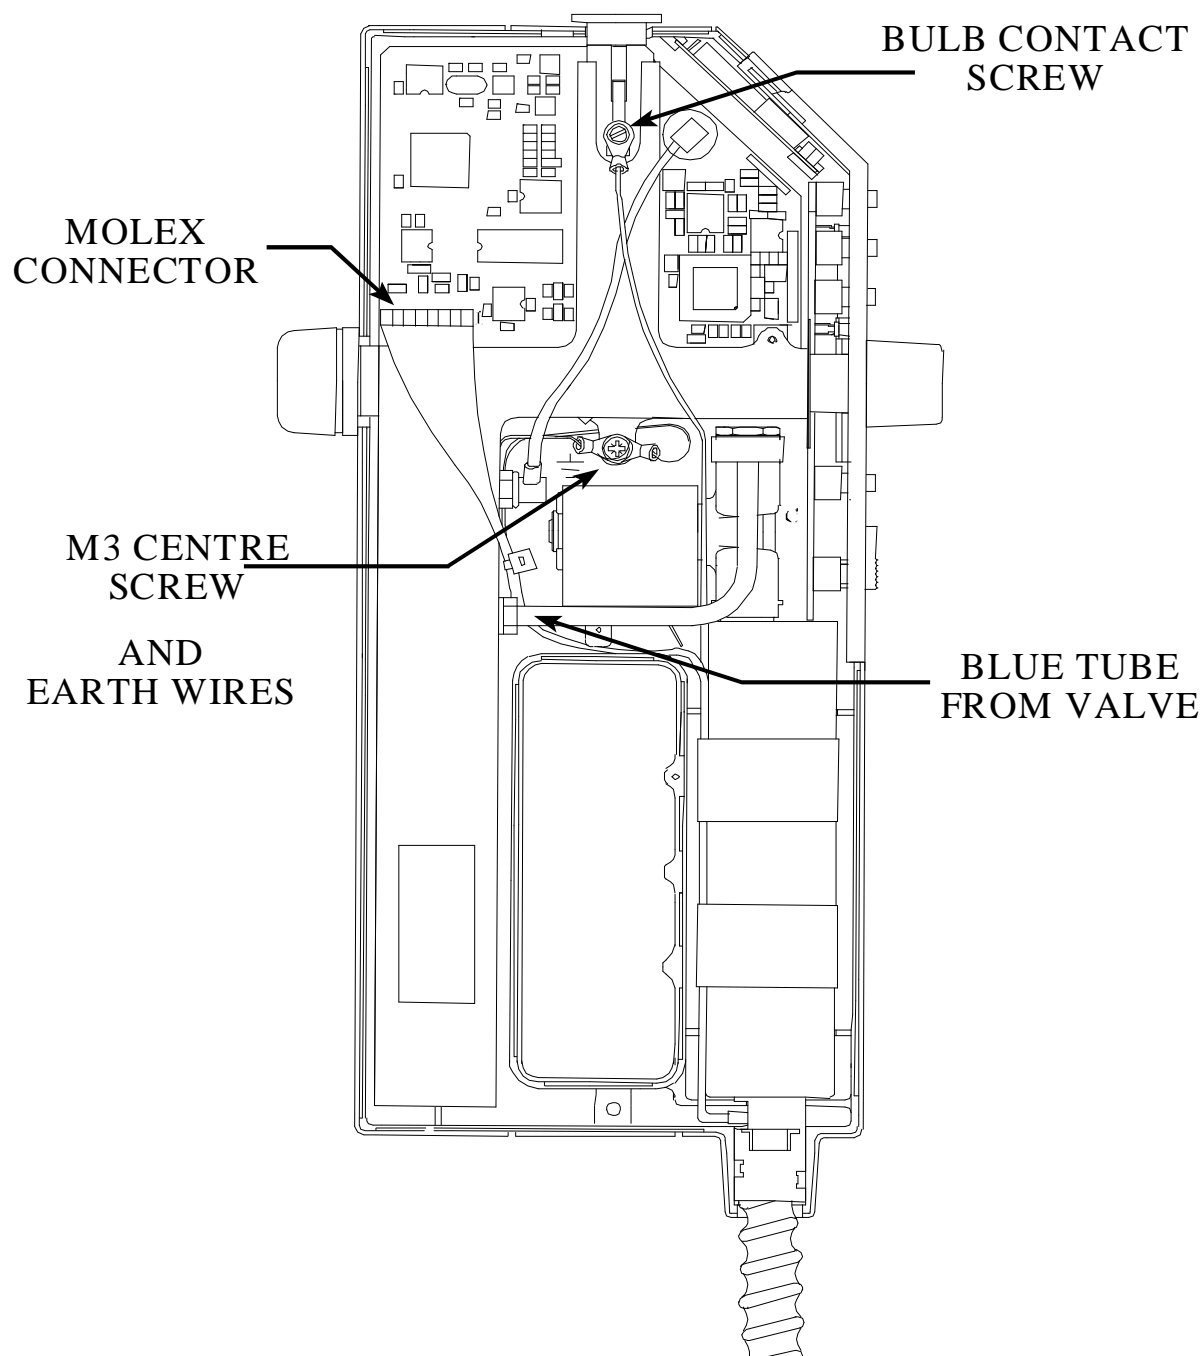

FIG 20
9. Disconnect Molex connector containing 8 wires from P.C.B.(as per fig 20)
10. Remove the M3 screw from centre of mainframe holding earth wires (as per fig 20).